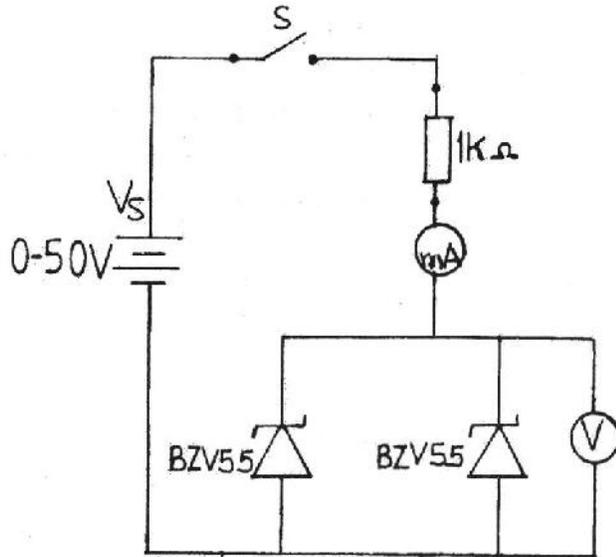

Fig. 1
- (a) Connect the circuit diagram as shown in Figure 1.